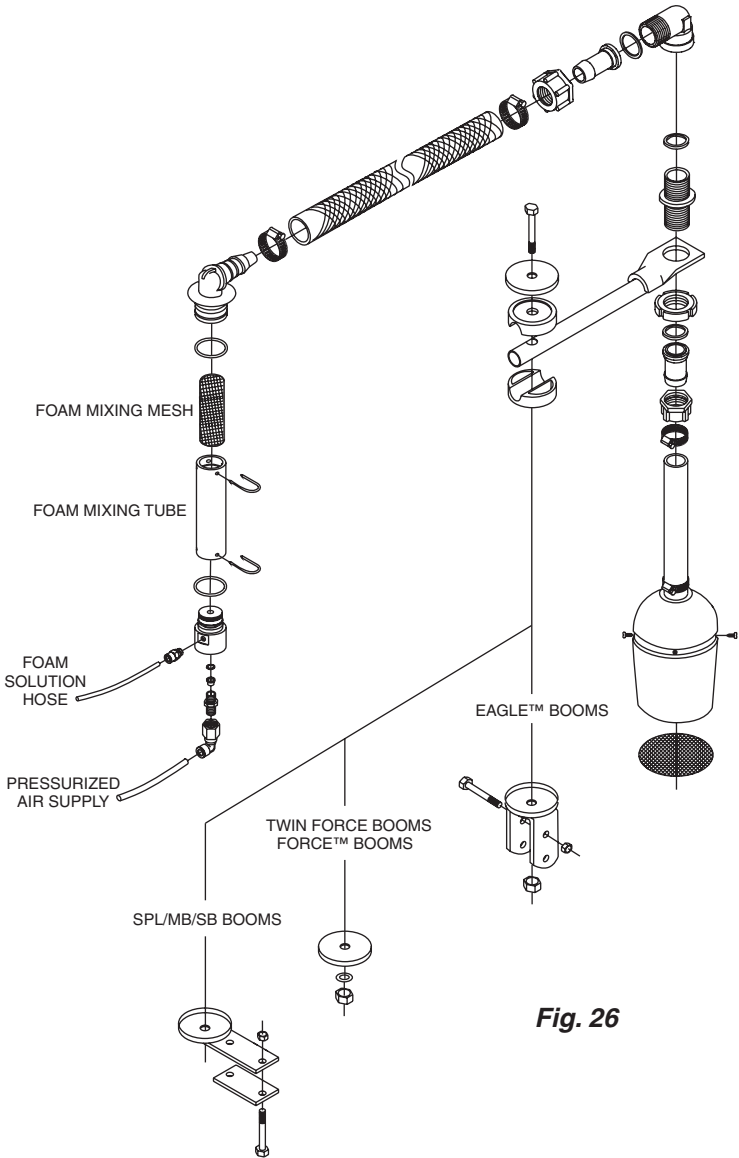

Fig. 26
Hose #3 (8mm), Brings foam solution from the compressor box out to the foam generators on the outer wing. (Refer to **Fig. 26** for installation of hoses in foam generator).
Hose #4 (10mm), Brings pressurized air from the compressor box out to the foam generators on the outer wing. (Refer to **Fig. 26** for installation of these hoses in foam generator).
- These components are to substitute the mount bracket which is fitted to the Foam Dropper assembly. Mount the new components as shown in (Fig. 26) and discard the unused components.